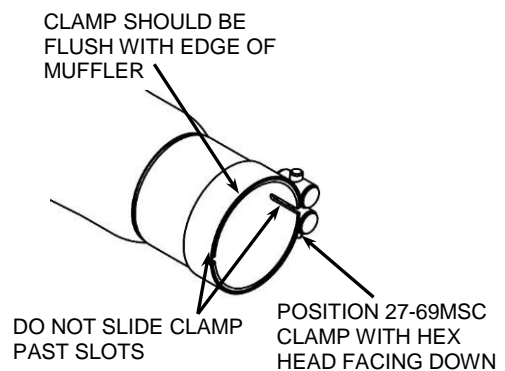

FIGURE 4
- Position the supplied #27-69 MSC muffler clamp with hex head facing inward and down as shown in **FIGURE 4** and slide it onto the muffler inlet tube.